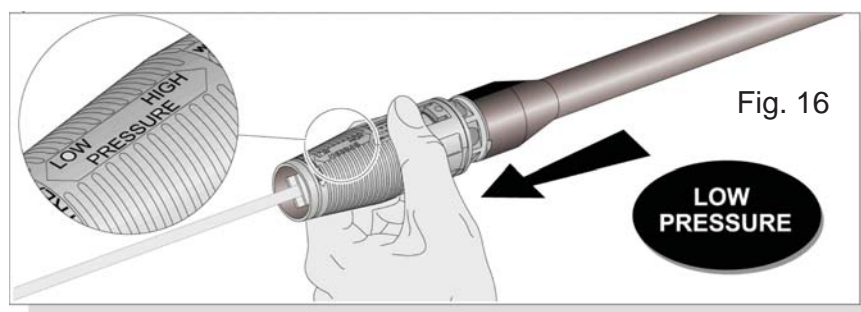

Fig. 16
- 4) Move the adjustable nozzle to the low pressure position. (Fig. 16)